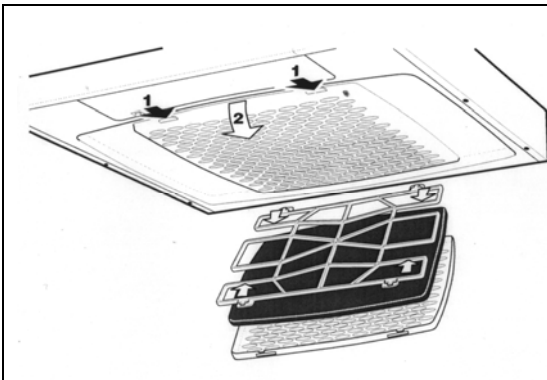

Fig. 11
- The filter cassette is released by pressing the "snap" locks on the front of the hood, (**fig. 11**). The filter itself is removed by releasing the filter holder as shown. Soak the filter in warm soapy water or in dishwasher.